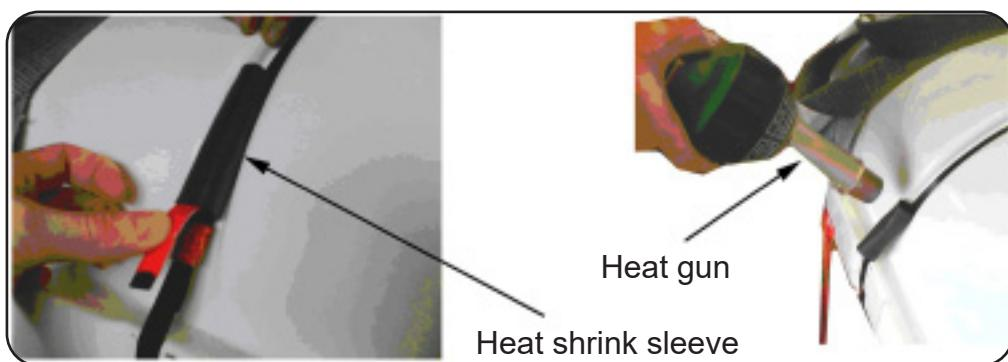

FIGURE 862
7. Heat shrink sleeve. Refer to FIGURE 862.